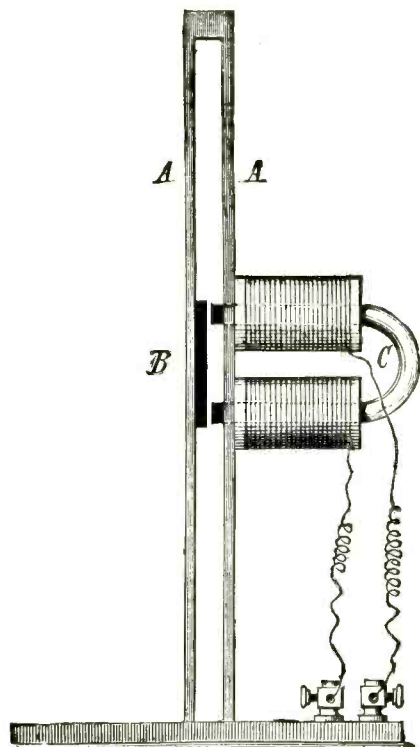

Fig. 1. Farrar electromagnetic receiver, 1851.
receiver, Fig. 1, was every bit of an electromagnetic loudspeaker.
The Miller Integrator is nothing more than an inverting amplifier with its output fed back to its input via a capacitor. It puts to use that old bugaboo of the audio designer, the Miller Effect. The essentials are shown at (A) in Fig. 1, and in this figure the capacitance, C , is not just the interelectrode capacitance of the tube, but an added external capacitor. For simplicity, bias supplies are omitted and the inverting amplifier is
Fig. 1. (A) Circuit of the Miller Integrator—one part of the over-all circuit. Step function (B) applied to the input provides the voltage e_{in} shown in (C) at the grid of the tube, and the output voltage e_o at the plate as shown at (D).